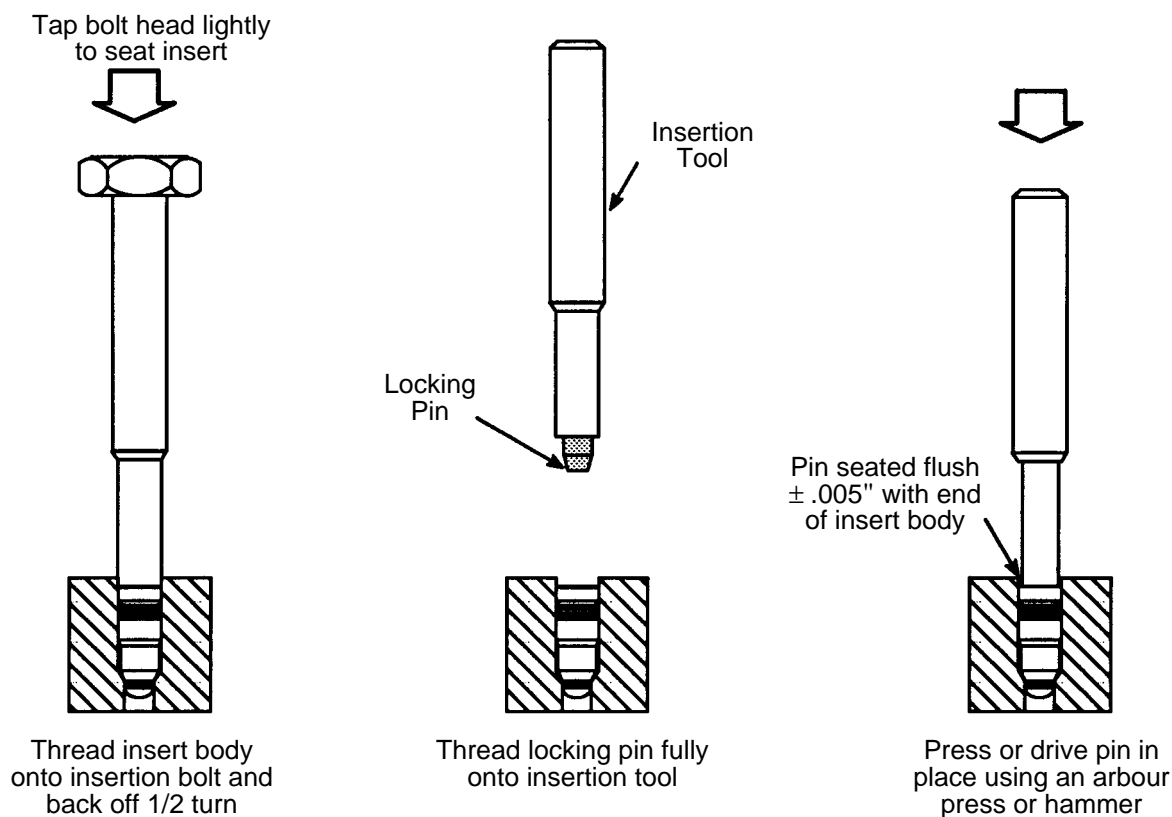

Figure 8 - Installation of Lee Jets
| Figure 8 - Installation of Lee Jets | 12 |
5.5.1 Install Lee jets as follows (see Figure 8):